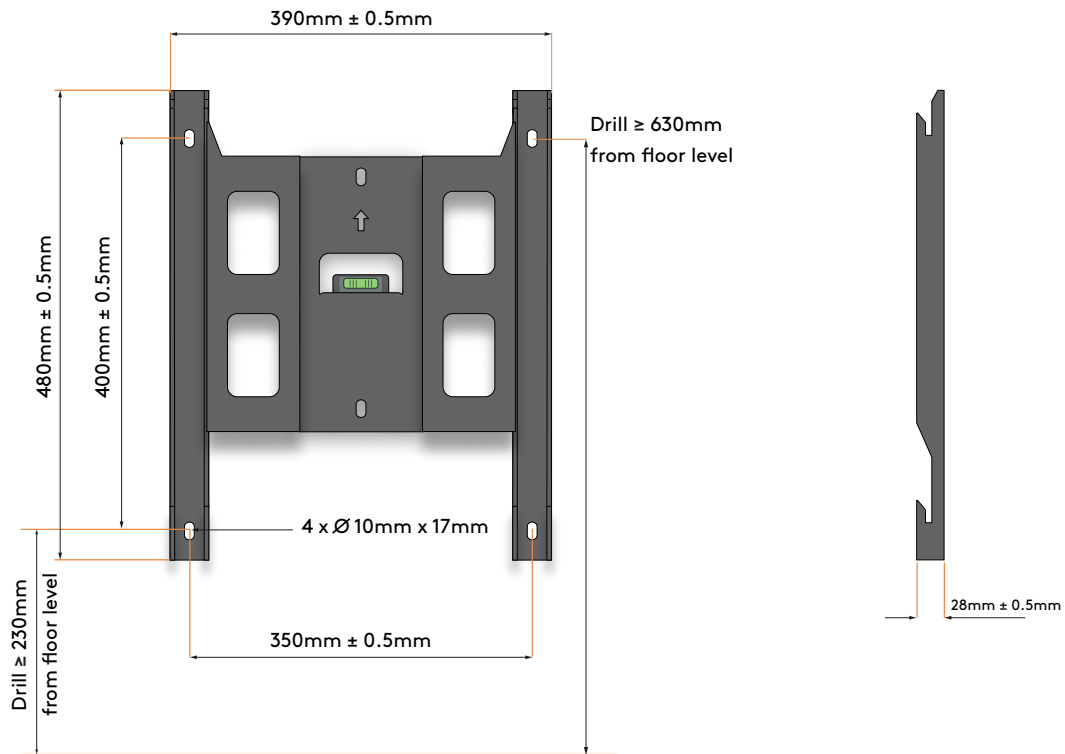

Figure 11. Illustration of wall-mounted bracket. Use the supplied cardboard template to mark its position on the wall.
- Step 3.** The dimensions of the wall-mounting bracket are shown in **Figure 11 on page 18**. Position the bracket against the wall in the indicated orientation, ensuring the bottom edge remains parallel to the floor.